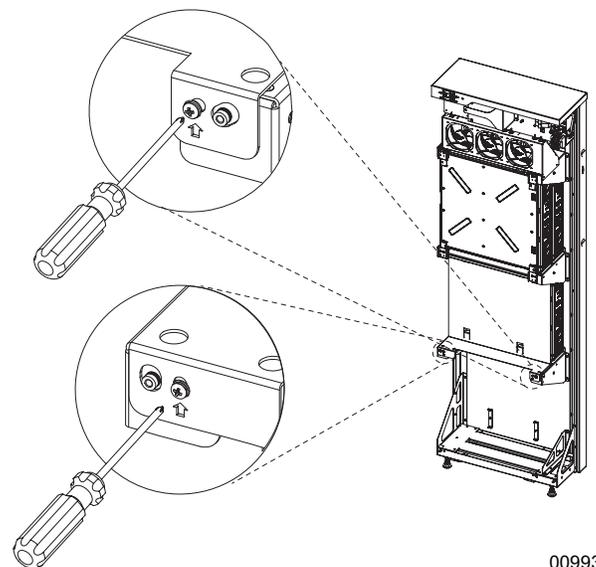

Figure 4-20. Installing Module Spacer (3 of 3)
4. See Figure 4-20. Secure spacer with two M4X8 SEMS screws and torque to 13 in-lb (1.47 Nm).